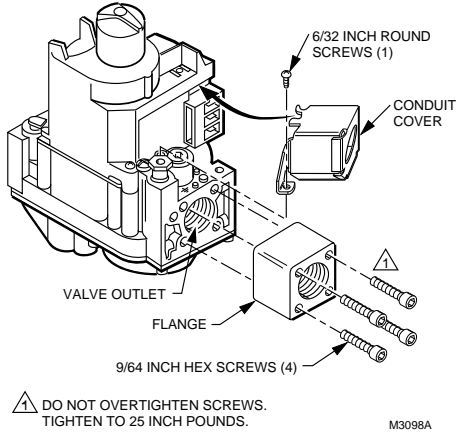

Fig. 1. Install flange to gas control
4. With O-ring facing gas control, align the screw holes on the gas control with the holes in the flange. Insert and tighten the screws provided with the flange. See Fig. 1. Tighten the screws to 25 inch pounds of torque to provide a gas-tight seal.
4. Make sure conduit cover is in position and secured to the gas control with the screw provided. See Fig. 1.